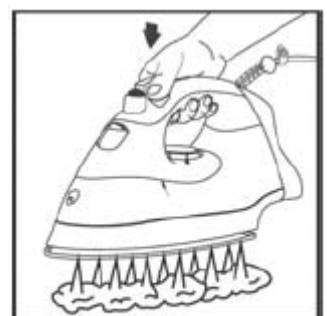

Fig. 2
- Lift the iron slightly above the surface of the fabric, press the Surge of Steam button down firmly and then release it during ironing (Fig. 2).